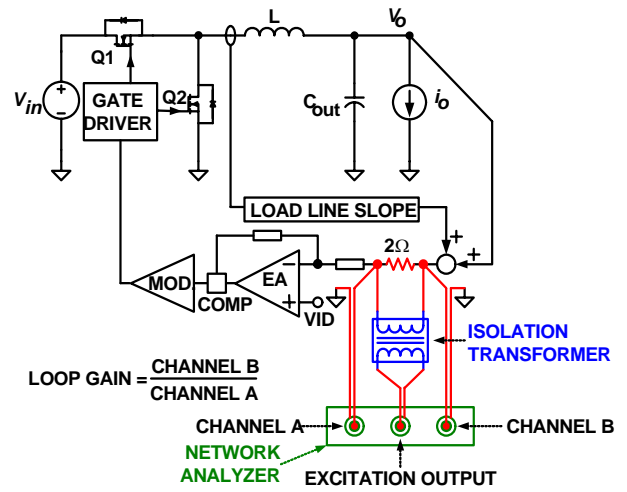
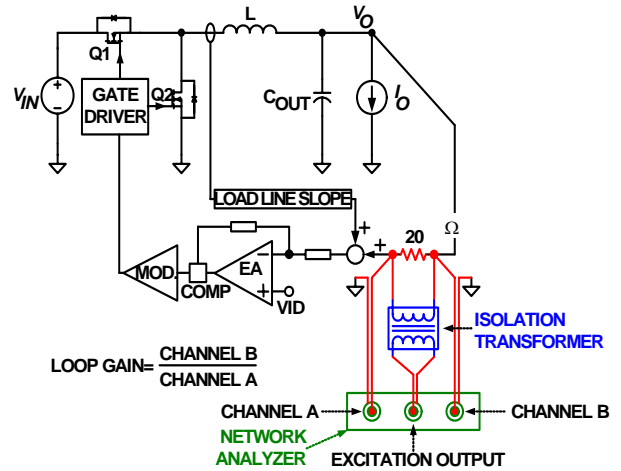

FIGURE 24. LOOP GAIN T1(s) MEASUREMENT SET-UP
FIGURE 25. LOOP GAIN T2(s) MEASUREMENT SET-UP
A VR with active droop function is a dual-loop system consisting of a voltage loop and a droop loop which is a current loop. However, neither loop alone is sufficient to describe the entire system. The spreadsheet shows two loop gain transfer functions, T1(s) and T2(s), that describe the entire system. Figure 24 conceptually shows T1(s) measurement set-up and Figure 25 conceptually shows T2(s) measurement set-up. The VR senses the inductor current, multiplies it by a gain of the load line slope, then adds it on top of the sensed output voltage and feeds it to the compensator. T(1) is measured after the summing node, and T2(s) is measured in the voltage loop before the summing node. The spreadsheet gives both T1(s) and T2(s) plots. However, only T2(s) can be actually measured on an ISL95831 regulator.